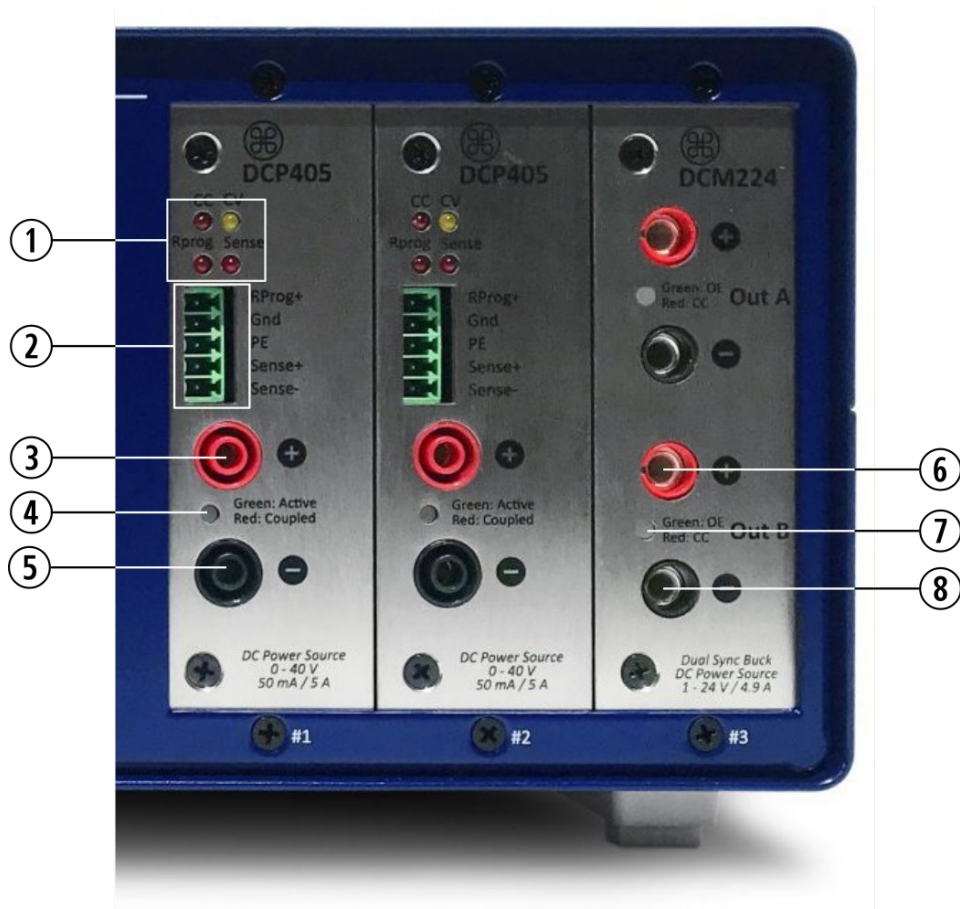
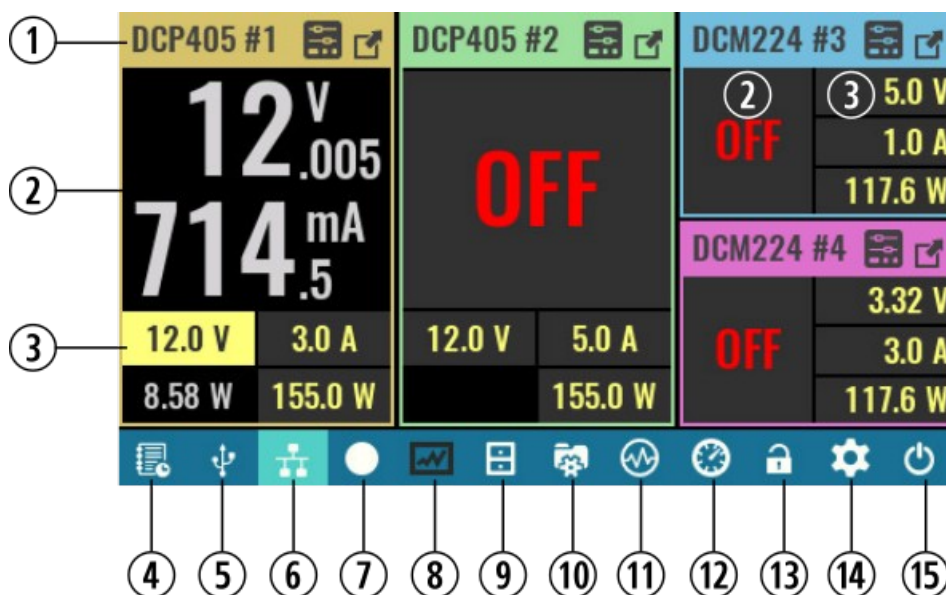

Fig. 7: Right side of the EEZ BB3 chassis front panel
Fig. 9: Home page overview
The EEZ BB3 can accommodate up to three modules. An example with three power modules are shown on Fig. 7.
Fig. 9 shows home page of the EEZ BB3 loaded with three different power module (see Fig. 7) using the default view (*numeric*) for presenting output states, and measured and set values. This module configuration (i.e. DCP405 and DCM220) will be used as an example throughout this manual.
- 12 **Display view selection:** toggle between five different presentations of output module parameters (default is numeric view – as shown on Fig. 9).